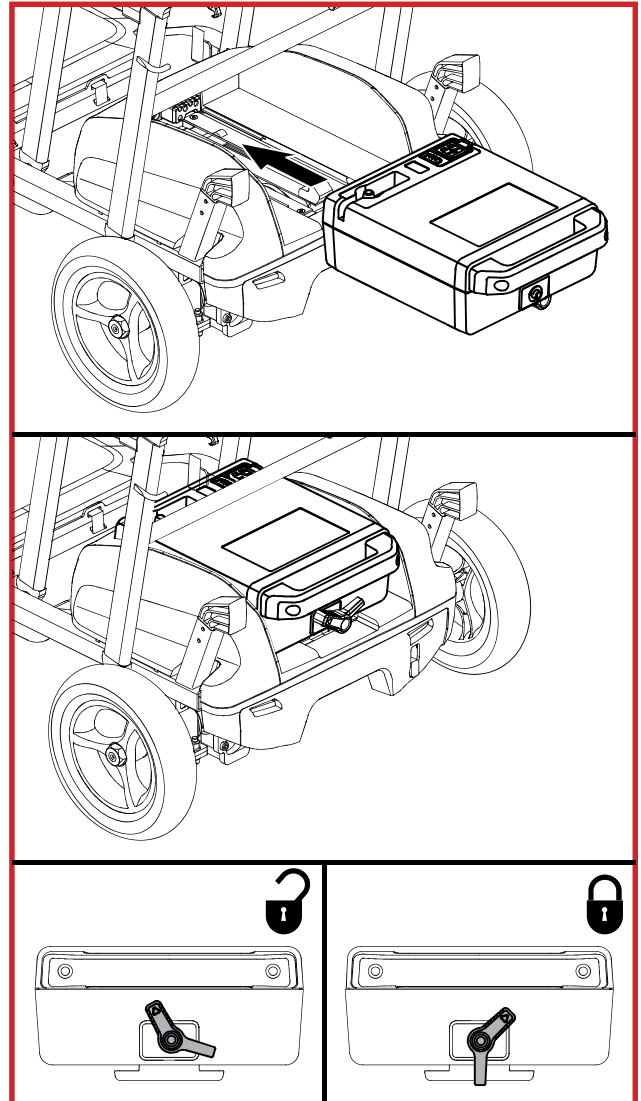

Figure 11 Battery Removal/Installation
To remove/install the battery pack, see figure 11:
2. Install the battery if necessary. **See figure 11.**